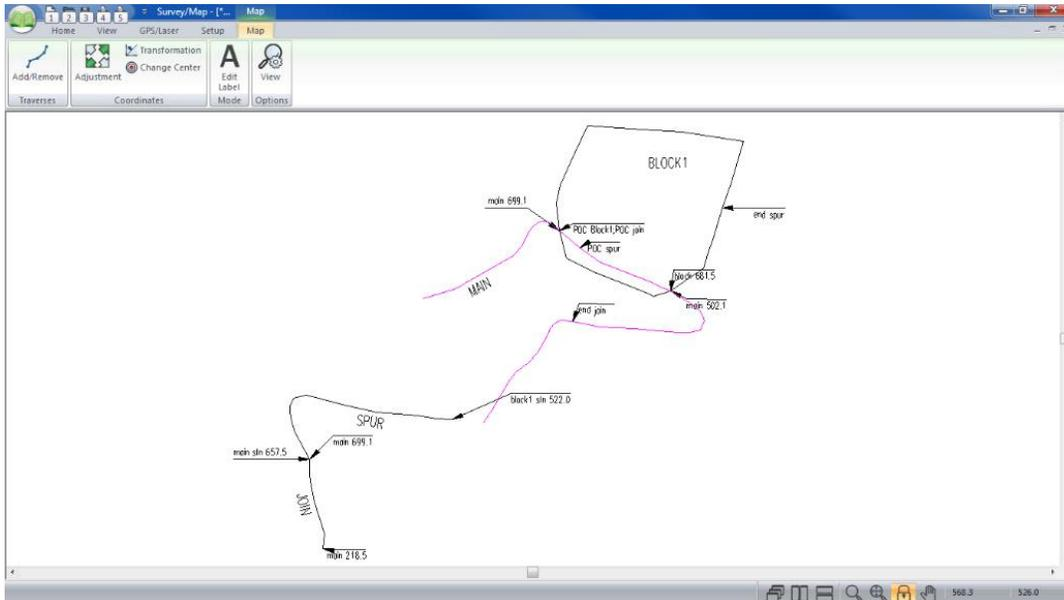

Figure 5-13: Method2.map before Adjusting spur.tr1
- This step coincides with Step 4 of Figure 5.13. Press **New** and make sure that **Close** is checked. Press **OK** then **Apply**. The **Block1** traverse will close.